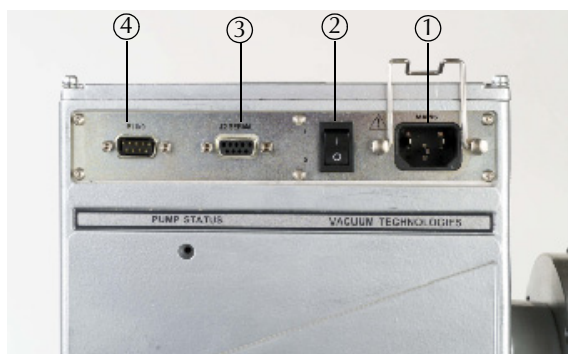

Figure 4 Inverter Interface
2. Using a 9-pin serial cable, connect your PC to the J2 serial port on the inverter (Figure 4).